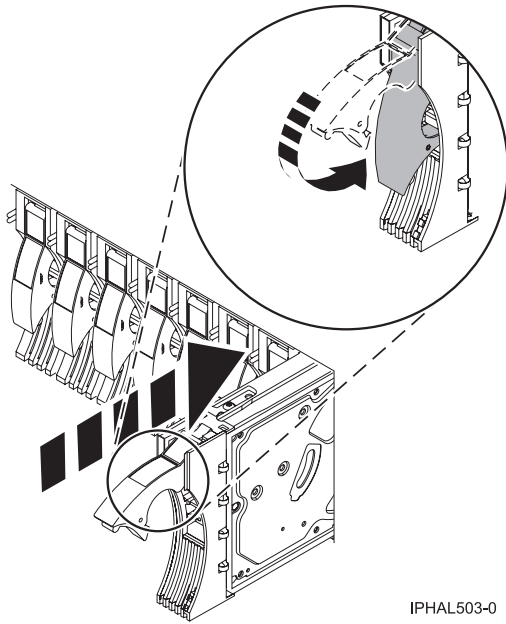

Figure 67. Installing a disk drive in a model a system
- c. Push the disk drive handle in until it locks, as shown in Figure 67 on page 72.